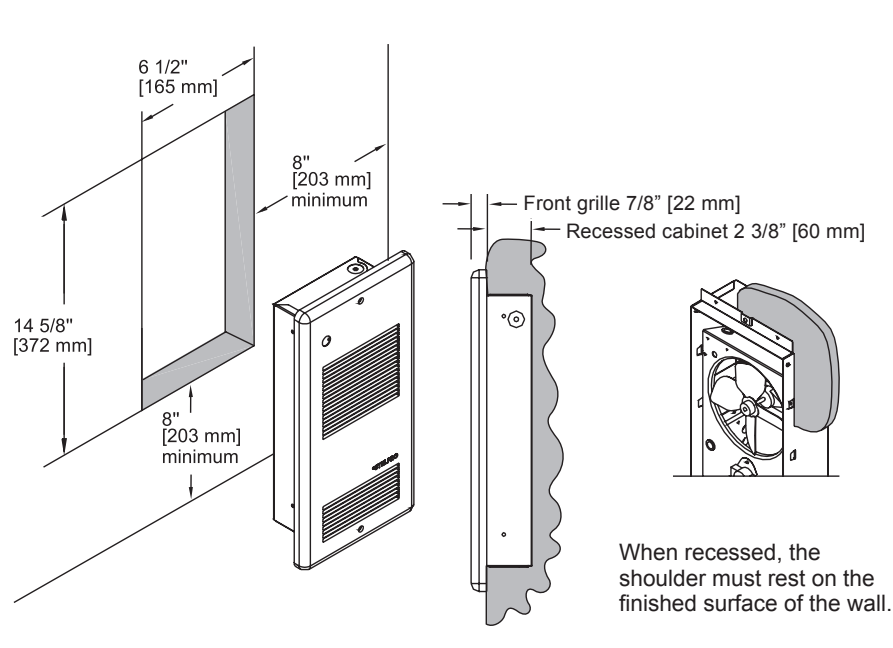

FIG. 3
4. Place the housing at the desired depth in the opening. Press it firmly onto the stud and secure it with two (2) nails or screws. Remember to account for the thickness of the finished wall when you install the housing. The edge of the housing must be flush with the wall surface (FIG. 3).
7. Secure the mechanical housing by tightening the four (4) screws removed in Step 3.
4. Place the housing against the wall, level it, then screw in place with four (4) screws (not supplied) using the holes provided for this purpose (FIG. 3).